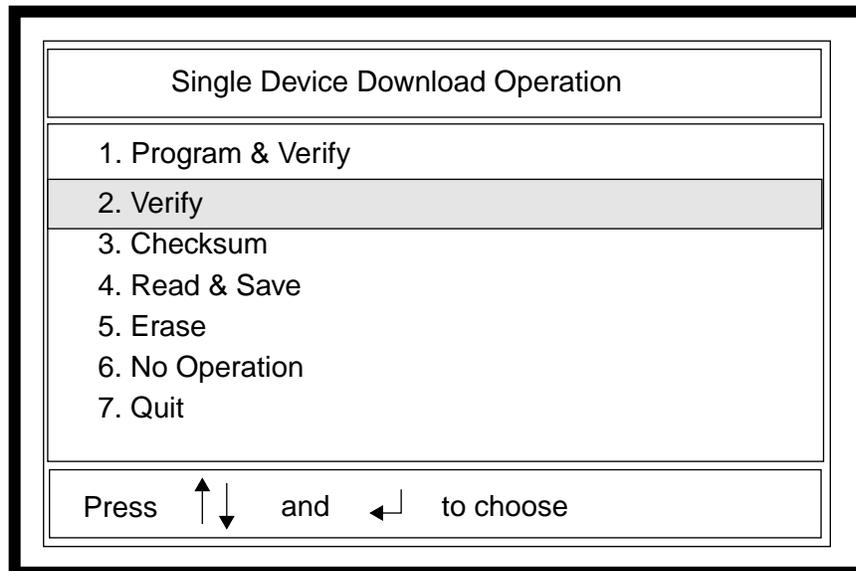

Figure 3-55. Verify Operation Screen
1. Type **2** or **V** from the Single Device Download Operation menu (Figure 3-55). The screen displays the following message: